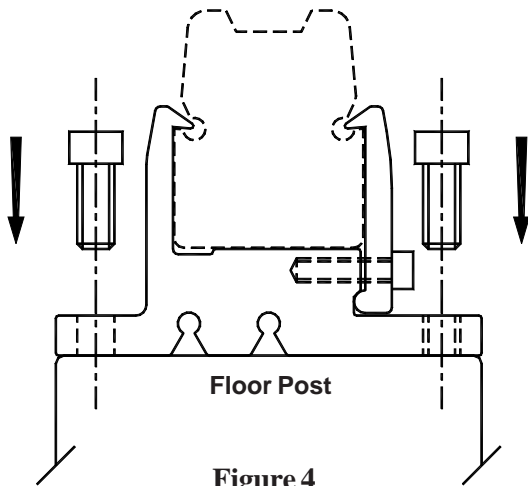

Figure 4
b) Drill holes 4.2mm diameter through the front face only of the floor post and tap M5. Secure brackets in place with M5 x 20mm cap allen screws. See figure 4.